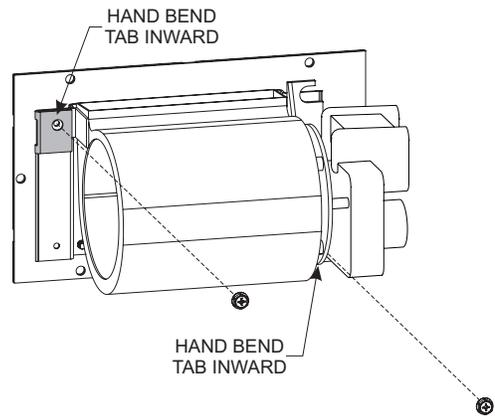

Figure 11
6. Bend tab as shown in Figure 11 and secure with (2) screws.